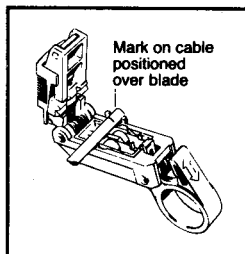

FIGURE 4
D. HOLD THE TOOL with the handle towards you and insert coax from left into the groove position. Locate mark on cable over the righthand blade, then close and latch tool. (Fig. 4 and 5)